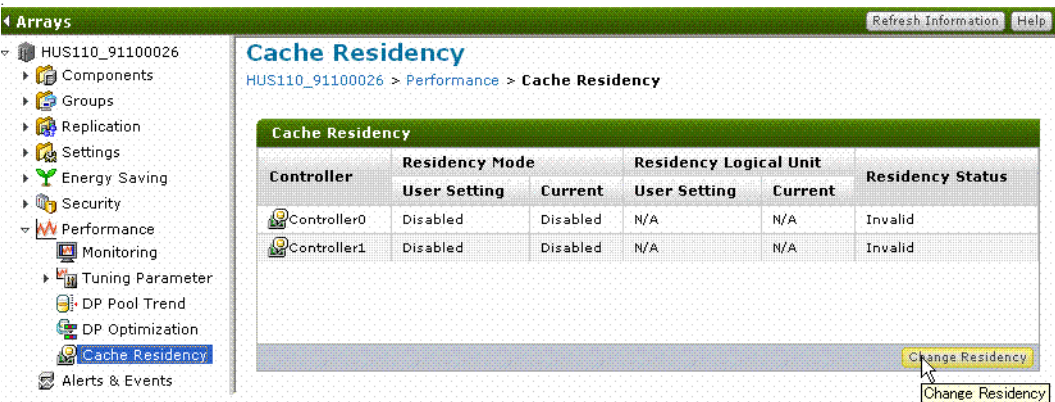

Figure 7-14: Cache Residency dialog box
- 3. Click **Cache Residency** from the Performance option in the tree view. The Cache Residency dialog box displays as shown in Figure 7-14.